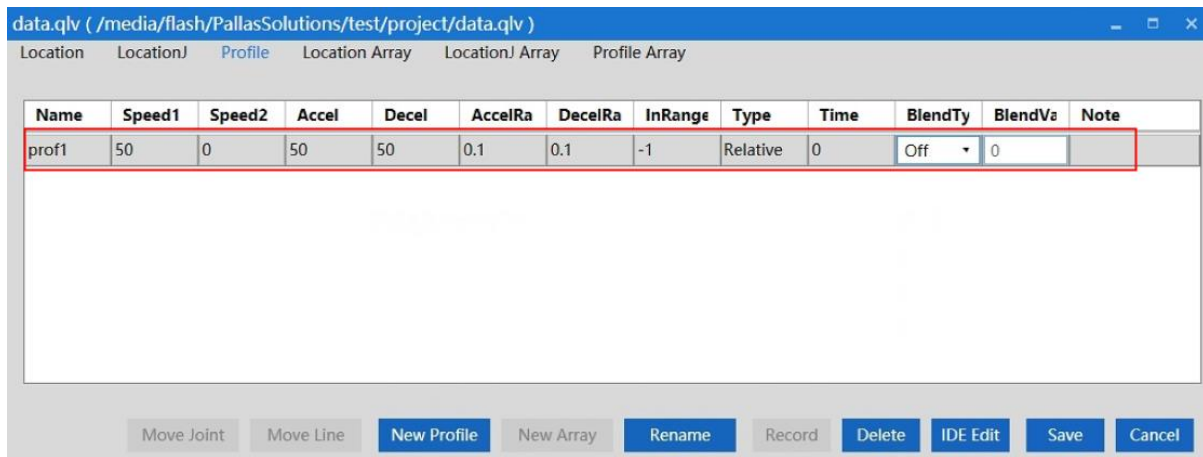

Figure 6-35 New Profile
Step 3 New Profile; Click "New Profile" in "Profile", and the default motion parameter information will appear in the interface. The motion parameter name is the default name, and you can click Rename to modify it, as shown in Figure 6-35.